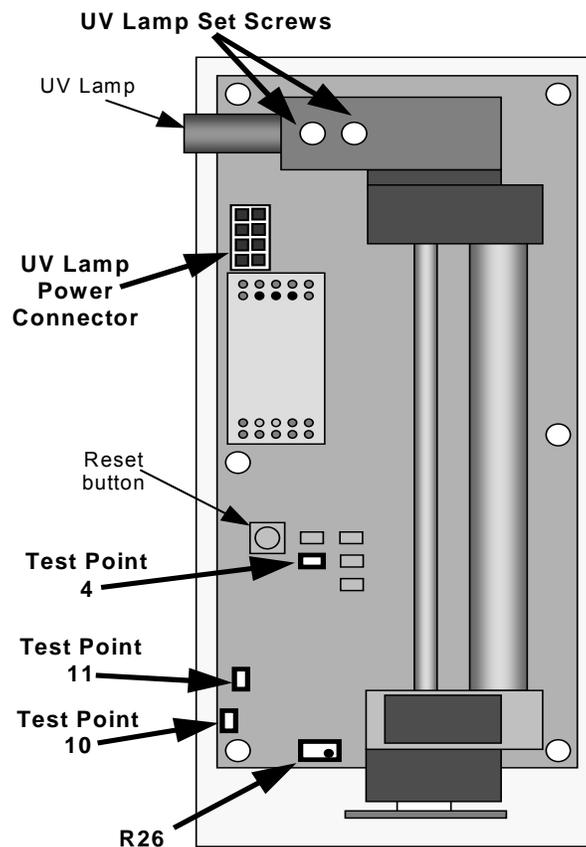

Figure 9-5 UV Lamp Set Screws and Calibration Test Points
2. Loosen, but do not remove, the two lamp set-screws (see Figure 9-5 below).